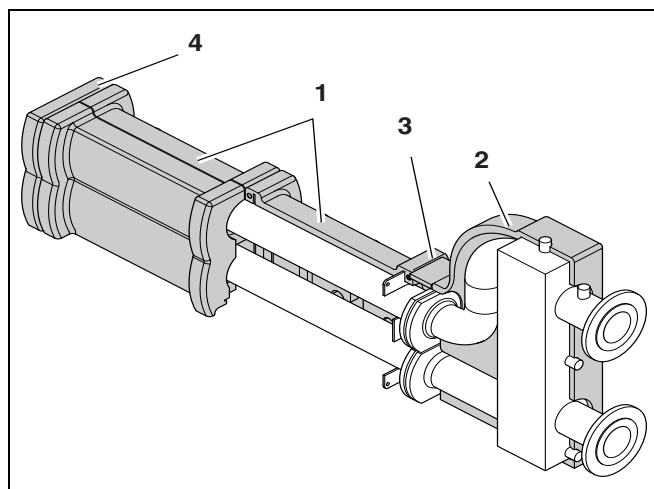

Fig. 10 Header
- Install the rear insulation over the header (fig. 10, [1]).
- Install the rear insulation part over the low loss header (fig. 10, [2]).
- If required, trim the insulation so that it is straight (fig. 10, [3]).
- Install the front insulation of the low loss header. If required, trim the insulation so that it is straight (fig. 10, [3]).
- Install the end cover over the header (fig. 10, [4]).